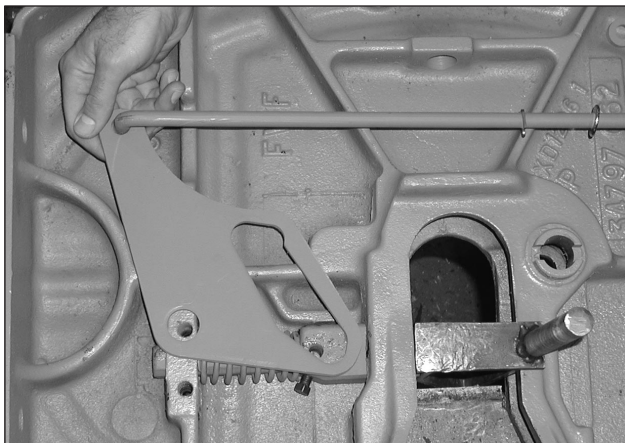

FIGURE 6
4. Insert left hand handle (15L) into the hole in the casting and slide on washer (14), spring (16L), washer (14), and cotter pin (12).
7. Position the cam plate on the casting with the large hole in the cam plate in line with the forward cam anchor hole (*see Figure 6*).